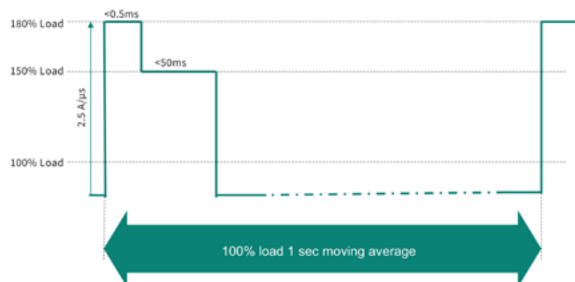

Figure 1: Example peak power profile demanded by AI GPUs
The rise of artificial intelligence (AI) has resulted in a significant increase in power demand in data centers. AI server racks will rise to higher power levels reaching 1 MW. Aside from the significant nominal-power rise of the AI PSU, the GPU also draws a higher peak power and generates high load transients, as shown in Figure 1. This high power and high load transient dictates new architectural changes in AC and DC distribution of data center racks to accommodate the significantly higher currents, while also considering the grid power capabilities. As a part of this new architecture, we introduce concepts of energy buffer (also known as Power Pulsation Buffer or PPB) to support AI peak loads without overloading the grid side. This article will also provide an overview of trends and the evolution of PSUs and rack architecture for AI servers.
Considering all GPUs working synchronously in the same IT rack and also with other IT racks in the same datacenter cluster, demanding peak power as shown in Figure 1, we must expect a large current transient on the grid and in the datacenter's front-end power distribution, such as the medium voltage transformers, protection devices, etc.